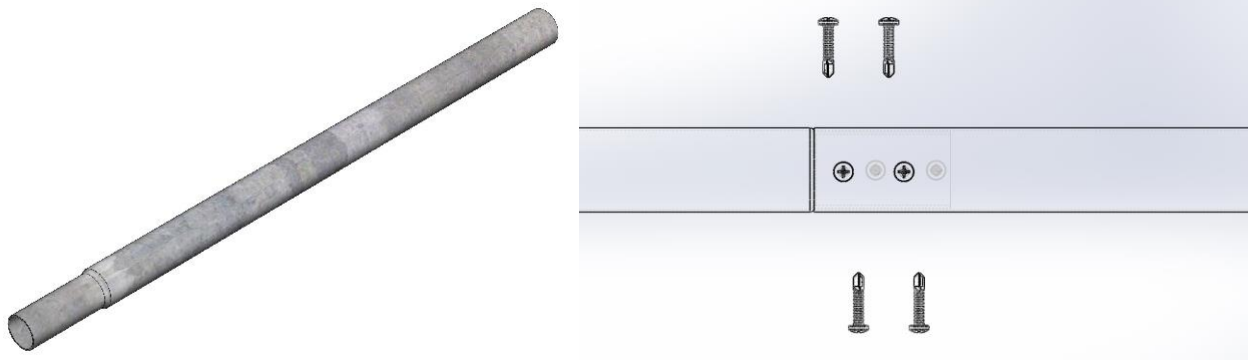

Figure 8
1. Locate the 3' Axle Extension Pipe 36945. It will be swedged on one end. See Fig. 8.
4. Insert the swedged end of the axle extension into the front of your tarp axle. If possible weld axle extension to tarp axle and let cool fully before proceeding to next step. If unable to weld, use the supplied self-drilling fasteners 103830 1/4" X 1-1/4" Pan Phillips Head (**Item A**) to attach the extension axle to the existing axle. Use a minimum of 8 fasteners 90 degrees apart from one another and equally spaced along the swedge zone to ensure a secure attachment. See Fig. 8.